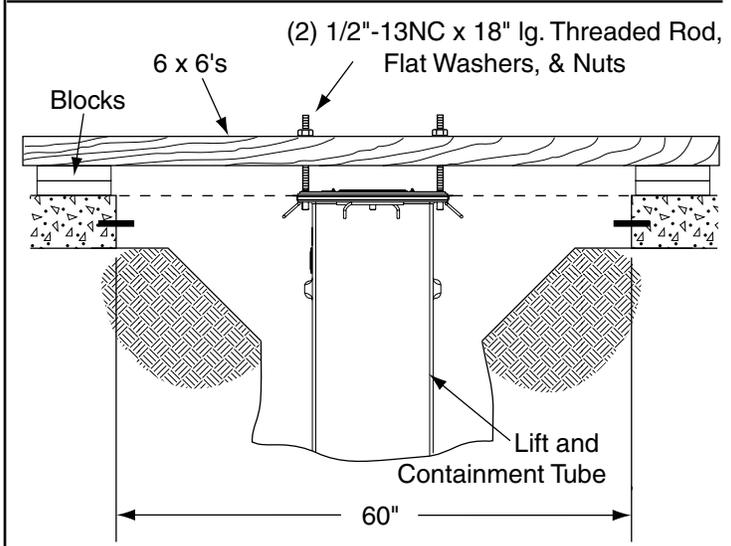

Fig. 4
C. Remove and retain (4) 1/2"-13NC x 2" HHCS (marked with **X**, Fig. 3). Insert 1/2" Threaded Rods x 18" lg. into the holes and secure in place using 1/2" flat washers and nuts, Fig. 4.
D. Attach 6 x 6's to support unit on existing floor and secure in place with 1/2" flat washers and nuts, Fig. 4. Remove shipping straps and install guide barrel bolts in open holes and torque to 60 ft-lbs. Remove protective covers from top of jacks.